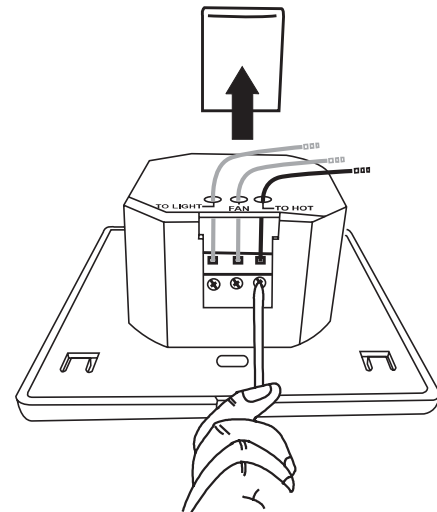

Figure 13
3. Make speed control wire connections (Fig. 13). Ensure that bare wires are fully inserted into their terminals with no loose strands and that terminal screws are fully tightened.